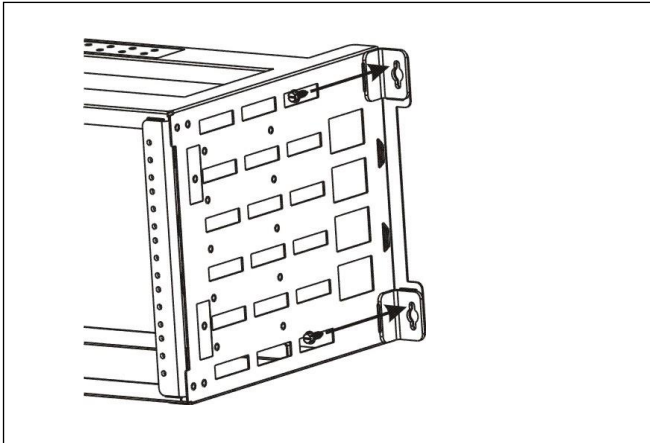

Figure 6. Mounting screw locations
- ① Verify the drill template with the WR-5UI2 and mark up as needed before proceeding. Exposure to humidity and temperature variations may impact the paper size and accuracy of the template.
- ② Select an appropriate location on a wall or backboard to install the mounting frame. Choose a mounting surface and hardware that can support the combined weight of the mounting assembly and equipment that is to be installed. Mounting to a 3/4" thick backboard with #12 x 1" screws is recommended. Maximum weight holding capacity of the WR-5UI2 is 100 lbs.
- ③ Determine the desired orientation of the ground lugs. The symmetrical design of the WR-5UI2 frame allows it to be installed with the grounding holes facing upward or downward.
- ④ Tape the drill template to the wall ensuring it is level. The drill template provides information for multiple wall mounted racks. Be sure to use the hole symbol (A).
Drill four (4) 3/16" pilot holes. These holes mate with the four mounting brackets located at the rear corners of the frame. The frame will be fastened with one screw in each of the brackets, as shown in Figure 6.